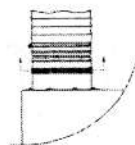

FIG. 2
3. Make sure that the seal is pulled up from the lower swivel joint to cover the gap between the lower and upper swivel joints (fig. 2).